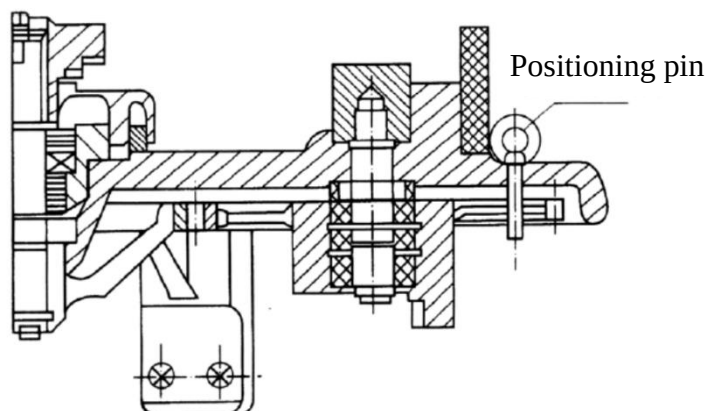

Figure 12 Remove the positioning pin on diverter switch
- 2) Lift the oil compartment and remove the positioning pin on diverter switch (Figure 12).